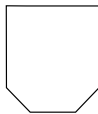

Figure 10: Metallic Test Tank
- Prepare a transparent Metallic Test Tank as shown in the following Figure 10.